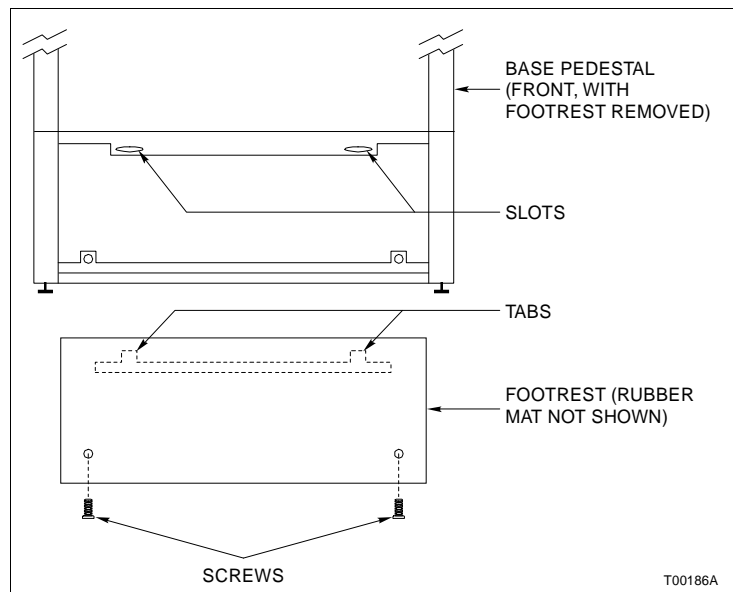

Figure PR72-1. Footrest Installation
1. Insert the footrest tabs into the slots in the base pedestal (Fig. PR72-1).